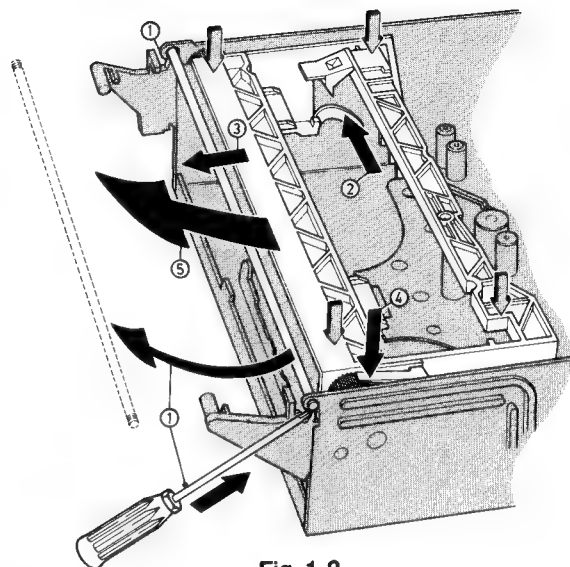

Fig. 1-2
Note: If the spring tension pos. 202 is lost, prestress the gear 20 complete revolutions and lock it ④ Fig. 1-2.